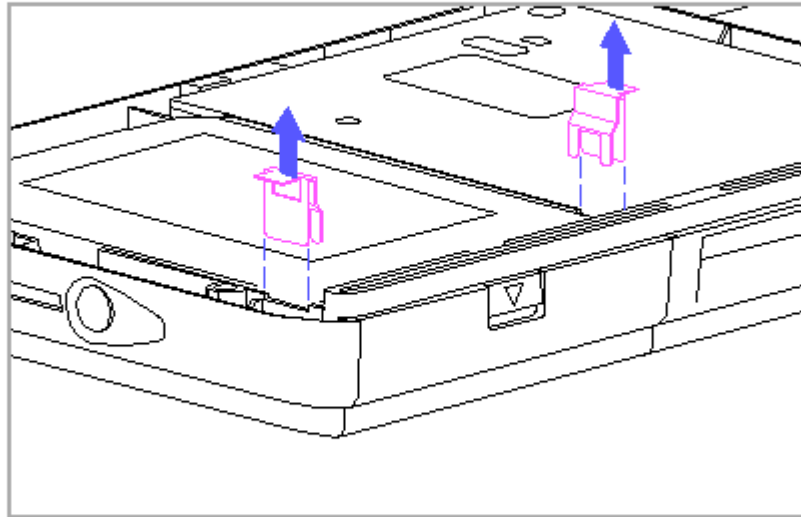

Figure 4-32. Removing the Hard Drive Security Clips
7. Remove the hard drive security clips by gently lifting up on them (Figure 4-32).
**IMPORTANT:** When replacing the hard drive security clips, position each clip over the notches in the plastic rib near the front of the hard drive enclosure. Insert each clip until the top surface of the clip is flush with the top surface of the plastic rib. If the clips are not flush, the keyboard will not fit properly. Note the orientation of the clips in Figure 4-32.